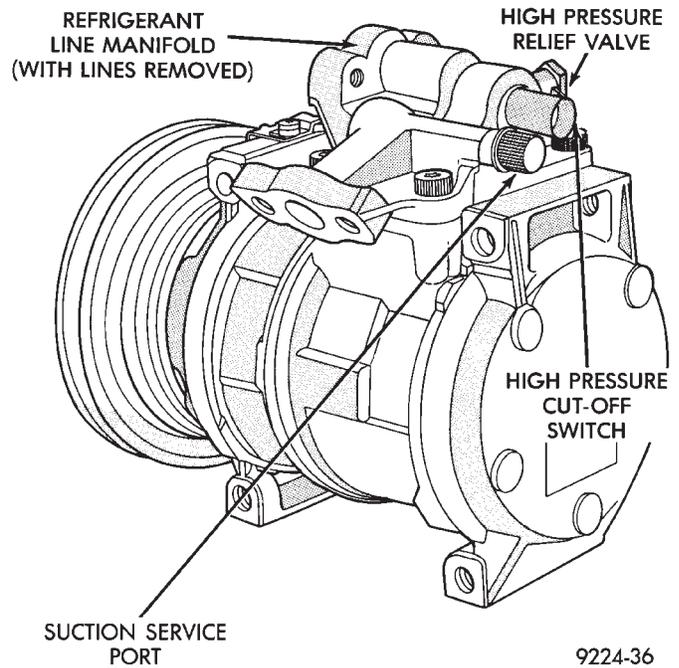

Fig. 14 High Pressure Relief Valve—Typical
(1) Discharge the refrigerant system.
(2) Rotate the high pressure relief valve counter-clockwise and separate relief valve from the vehicle (Fig. 14).